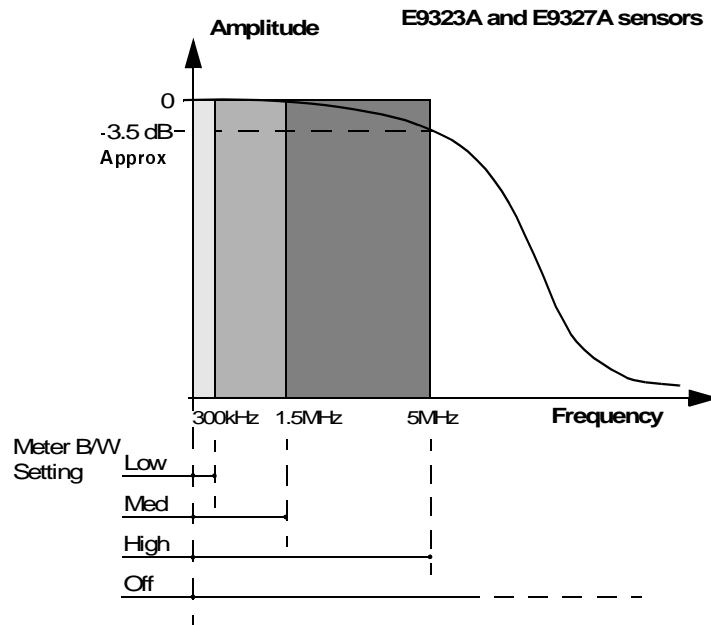

Figure 39 Bandwidth Filter Shapes
* The Low, Medium, and High settings provide flat filter responses with very sharp cutoff points by applying digital signal processing techniques. The Off setting removes all signal conditioning. Refer to Figure 39.
A fourth, filter Off, setting is provided. This provides approximately 3dB roll off at the maximum sensor bandwidth and is best suited for accurate trace capture, removing any ringing effects caused by the sharp cut-off filters used in the Low, Med and High settings. Figure 39 shows the filter shapes associated